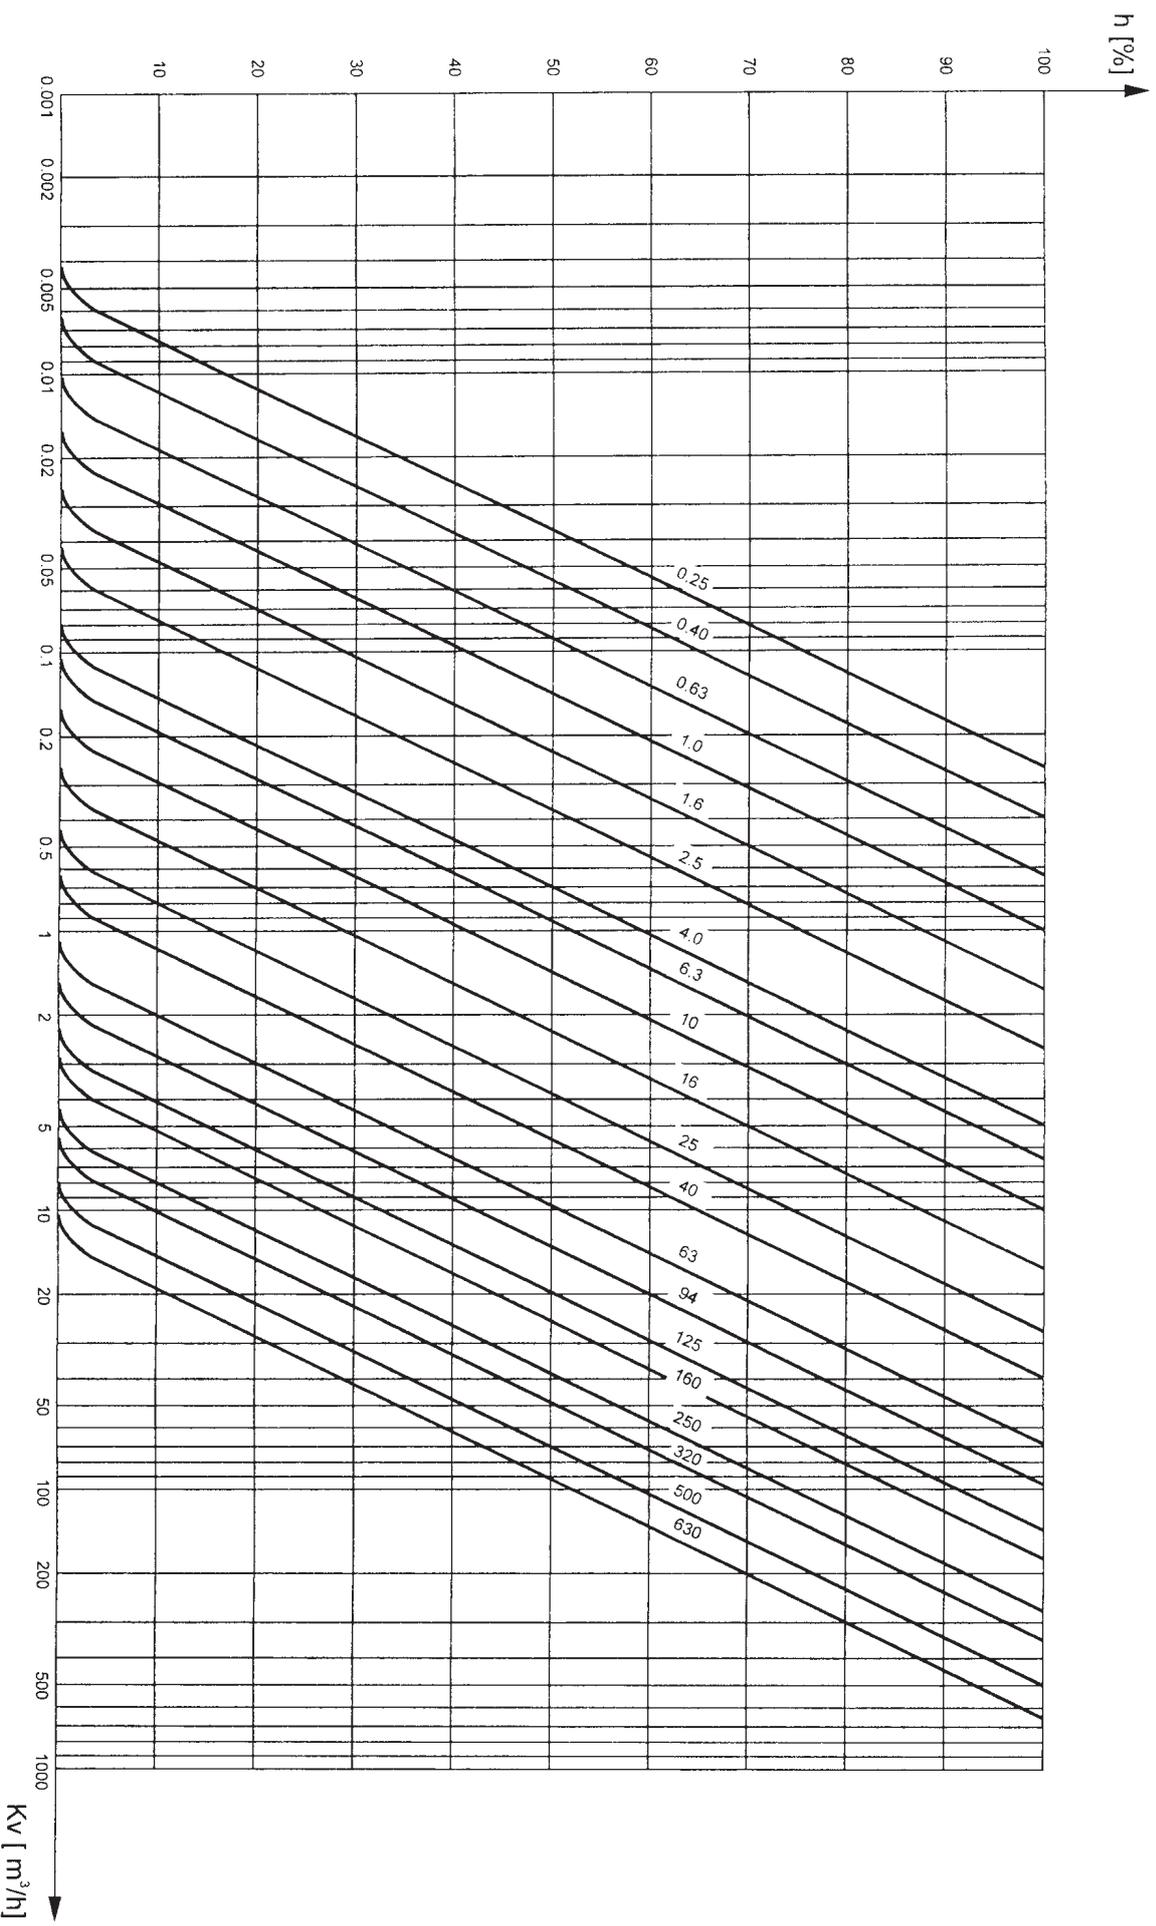

Fig. 4
2. Equal percentage flow characteristic acc. to Fig. 4
4. In valves with quick-opening characteristic (O) Kvs coefficients are greater by 20% than those given in Tab. 1 and Tab. 2